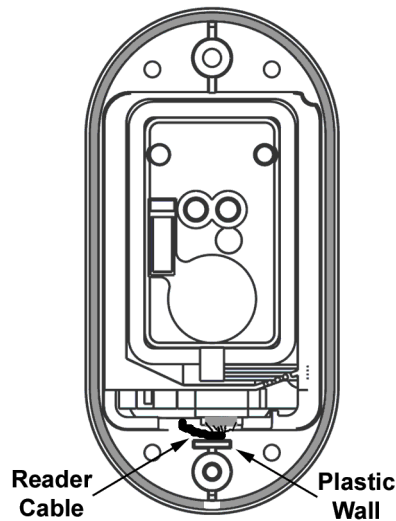

Figure 2-34 – Reader Cable Dressing
- 2.11.2.4 Dress the Reader Cable so that a minimum of cable is left on the front side of the reader and that all of the Reader Cable is above the Plastic Wall (Figure 2-34). This insures that the Reader Cable will not interfere when mounting the Reader Cover.